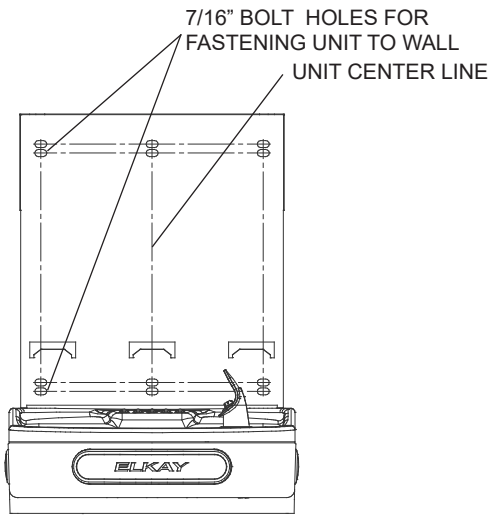

Fig. 8
- 4) Install wall mounting plate to wall using six (6) 7/16" obround mounting holes (mounting bolts not included) (See Fig. 8). Use appropriate fasteners for your wall type.